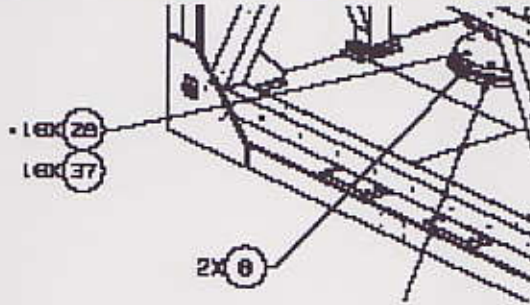

Figure 10
13. Remove the pedestal weldment A, SEG38117020-701, item 8 in Figure 10, pedestal weldment B, SEG38117020-702, item 6, pedestal weldment C, SEG38117020-703, item 7, along with their bolts, SDG38117090-801, item 29, and washers, NAS1587-8C, item 37, and also remove all the pedestal shims. Place the fasteners in the marked bag for identification.